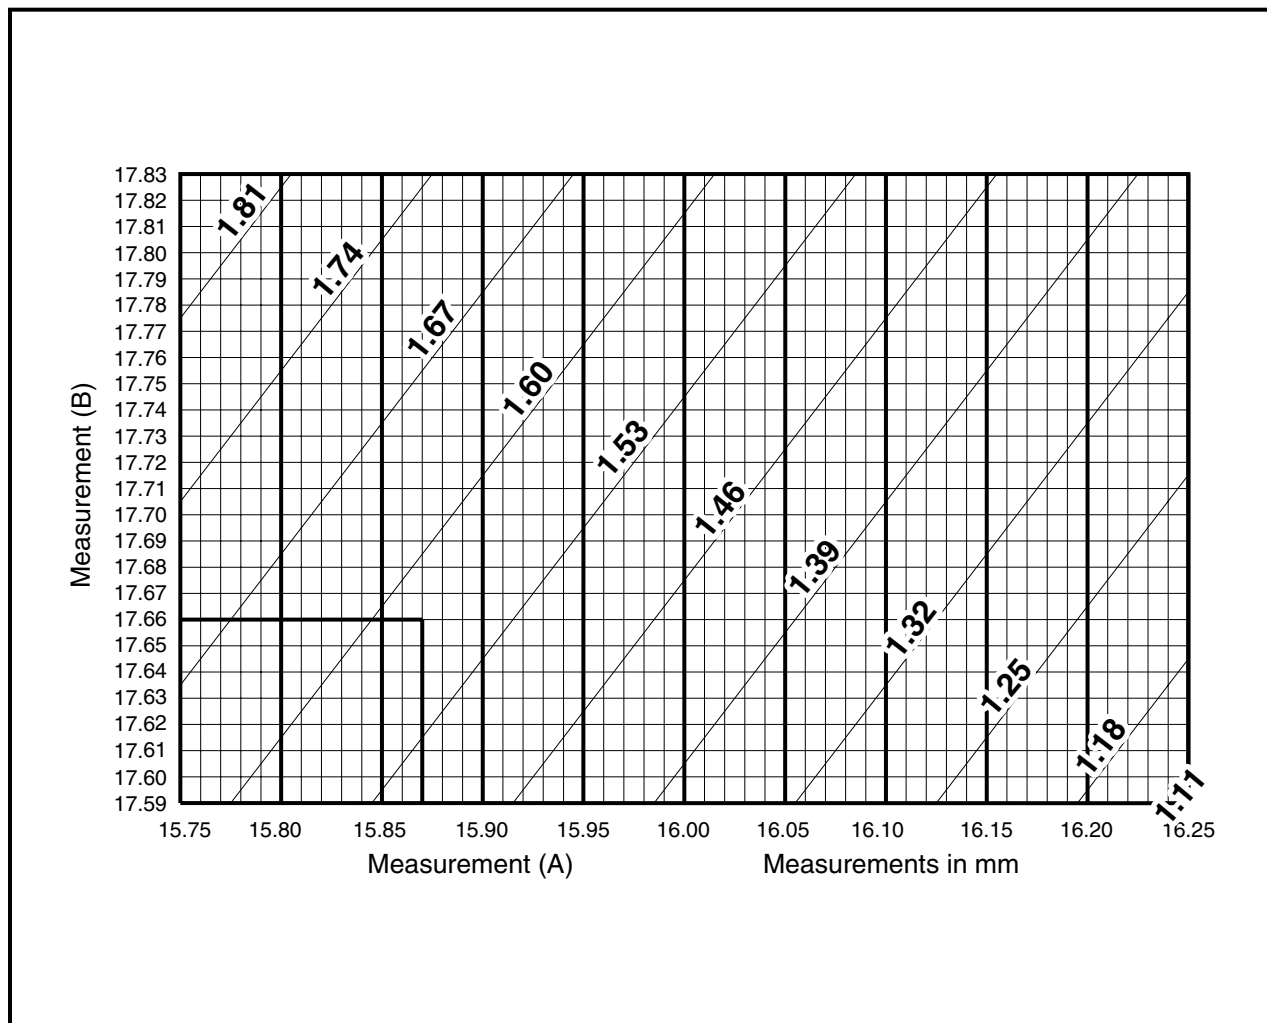

Figure 13-99 Crankshaft Shim Table
3. Locate the measurements on the Crankshaft Shim Table. Follow lines to where the recorded measurements intersect (Figure 13-99, Page 13-46).
4. Choose the next smaller shim from the table. Example: Measurement A is 15.87 mm and B is 17.66 mm. The correct crankshaft shim is 1.53 mm (Figure 13-99, Page 13-46). See following **NOTE**.